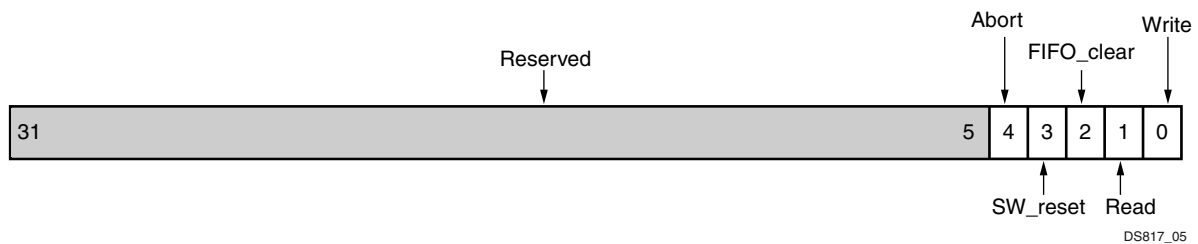

Figure 2-4: Control Register (CR)
The Control Register (CR) shown in Figure 2-4 is a 32-bit write register that determines the direction of the data transfer. It controls whether a configuration or read back takes place. Writing to this register initiates the transfer. The bit definitions for the register are shown in Table 2-8.